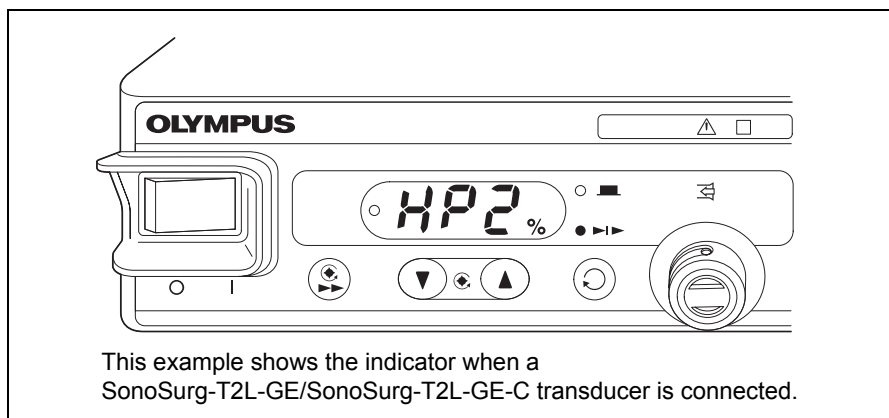

Figure 3.7
1. Confirm that the irrigation level setting indicator displays the type of transducer, which is connected to the SonoSurg generator (see Figure 3.7).